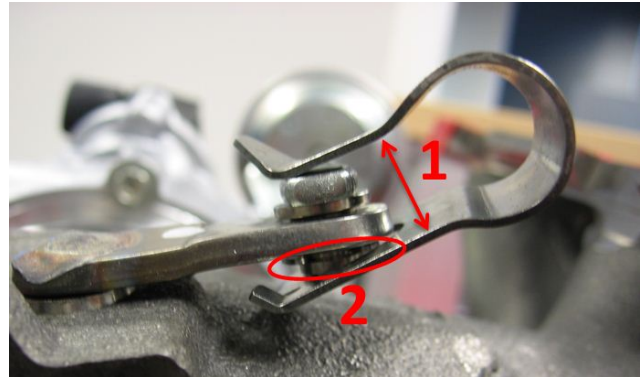

Figure 6. (1) Maximum opening of clip, (2) Position of original circlip
6. After fitting the spring clip, check the position of the original circlip (Figure 6, 2) and correct it if necessary.